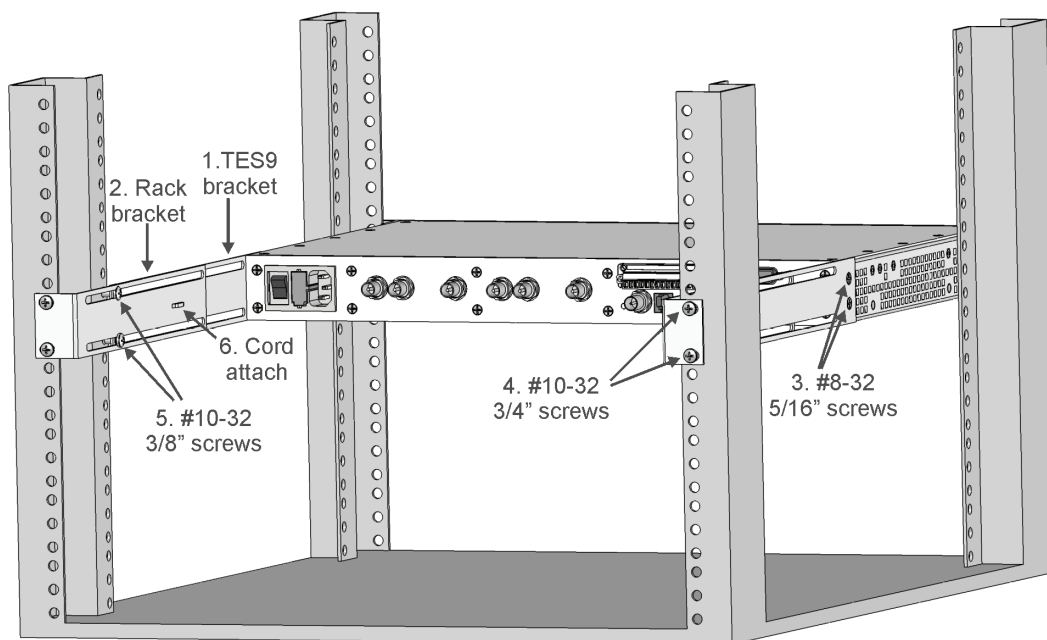

Figure 3.1 TES9 Rear View — Rack-mounting Detail
This section describes how to mount the TES9 in the rack. In using these instructions, consult **Figure 3.1**. Note that the TES9 should be attached to both the front and rear of the rack; because of the weight of the potentially large number of cables connected to the rear of the TES9, rear rack mounting is strongly advised.
1. Attach the rear TES9 brackets (41-10437-01) to both sides of the chassis using the mounting holes near the rear of the TES9. Use the #8-32 flat-head screws, and insert them through the countersunk holes in the bracket into the mounting holes on the TES9. See item 3 in **Figure 3.1**.
- Skip Steps Install four nut clips to the rear of the rack at the same height as those used to mount the front of the TES9. through Install two 3/8" #10 screws through the slots in each rear bracket into the captive nuts near the rear end of the TES9 brackets. See item 5 in **Figure 3.1**.
5. Attach the two rear rack brackets to the nut clips installed in the preceding step, using two 3/4" #10-32 screws for each bracket. See item 4 in **Figure 3.1**. Before tightening the screws, ensure that these brackets contact the inner side of the brackets mounted to the TES9; that is, they should be closer to the center of the rack than the ones on the TES9. The slots in these brackets should also be approximately aligned with the screw holes in the TES9 brackets.
6. Install two 3/8" #10 screws through the slots in each rear bracket into the captive nuts near the rear end of the TES9 brackets. See item 5 in **Figure 3.1**.
8. Insert a tie-wrap through the strain relief bridge on the rack bracket near the TES9 power entry module; see item 6 in **Figure 3.1**. Pass the tie-wrap around the power cord and tighten it to prevent the power cord from being inadvertently pulled out of the TES9.